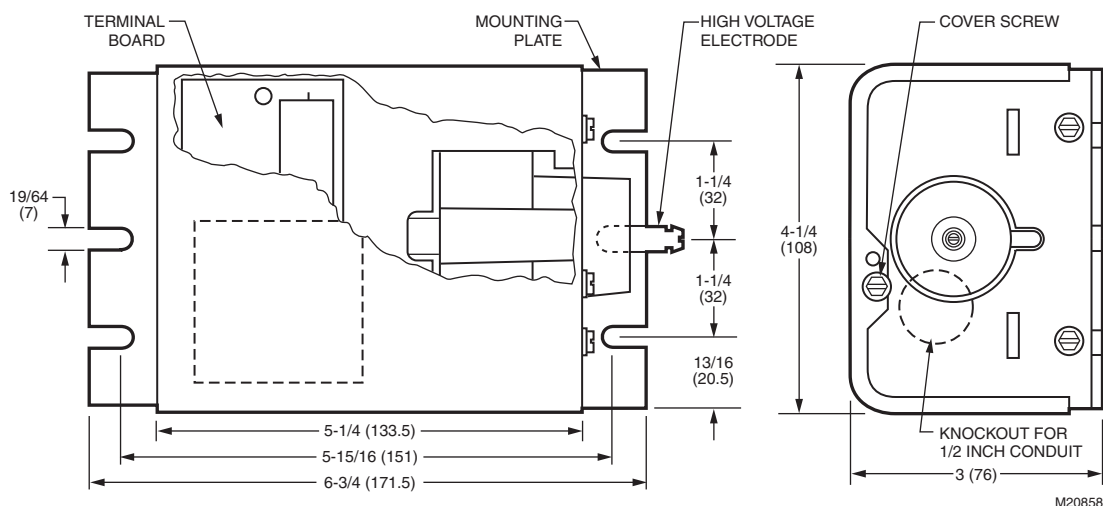
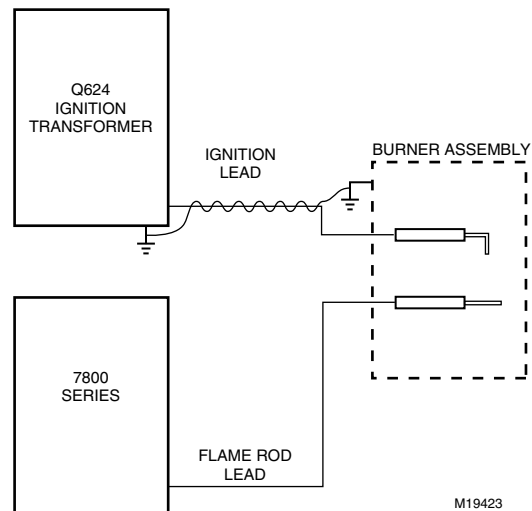

Fig. 1. Q624A Solid State Spark Generator dimensions in in. (mm).
Fig. 3. Grounding the Q624 to the burner assembly.
Dimensions: See Fig. 1.
1. Loosen the cover screw (Fig. 1) and remove the cover.
2. Insert two leads (NEC Class 1) through the 1/2 in. (13 mm) conduit knockout (Fig. 1) and connect them to the screw terminals on the terminal board, and to the terminal strip or wiring subbase of the flame safeguard control (see Table 1 and Fig. 3 or 4).
4. Connect the high voltage electrode (Fig. 1) to the ignition electrode on the pilot burner, using the appropriate Ignition Cable Assembly or Ignition Cable (see Accessories in the Specifications section).
3. Wrap the wire around the igniter (high tension) lead as shown in Fig. 3. Four or five wraps are sufficient.